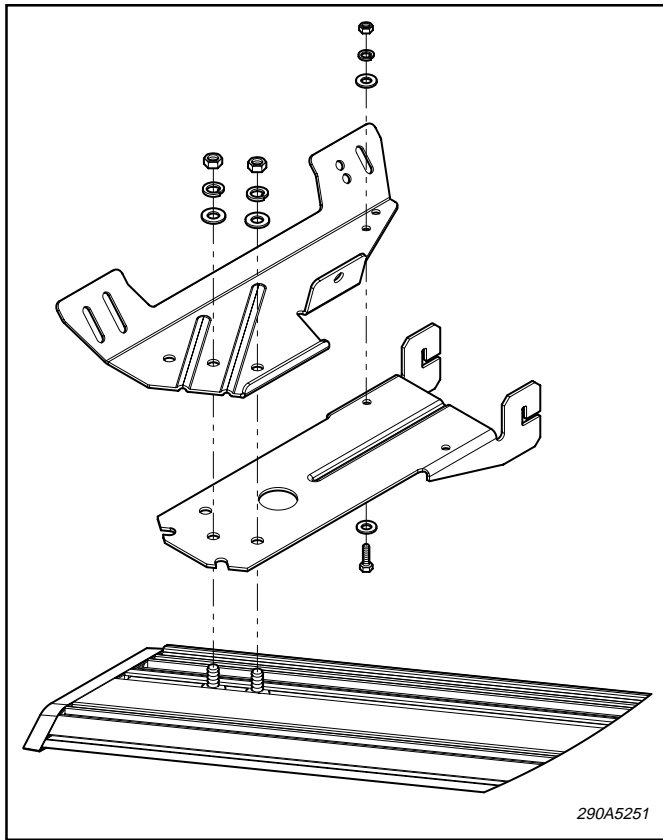

Figure 1.
B. See figure 1. Using the 1/4-20 hex head bolt, 1/4" flat washers, 1/4" lockwasher, and 1/4" hex nut,